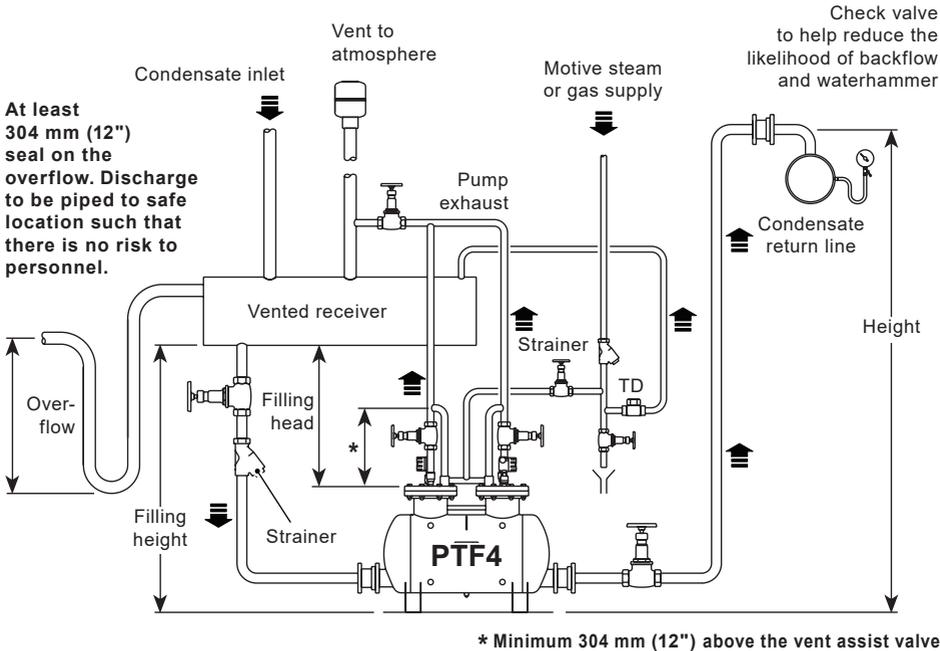

Fig. 2 Typical installation - Vented pump system
A receiver overflow piping should be installed as shown in Figure 2 and piped to a suitable drain. The piping must form a loop type water seal at least 304 mm (12") deep immediately after the receiver.
- 3.5.1** Install the pump physically below the receiver to be drained with the exhaust connection vertically upwards. The pump should be installed with the recommended filling head (the vertical distance between the top of the pump and the bottom of the receiver) as shown in Figure 2. For other filling head variations, see the Capacity Table on TI-P135-13.
- 3.5.2** To prevent equipment flooding during the pump discharge stroke, a vented receiver should be installed in a horizontal plane ahead of the pump as shown in Figure 2. For the correct receiver sizing, refer to Table 1. All inlet line fittings must be fully ported.
- 3.5.5** Any horizontal runs in the exhaust line should be pitched so that the line is self-draining. The exhaust line should be piped, unrestricted, to atmosphere as shown in Figure 2.